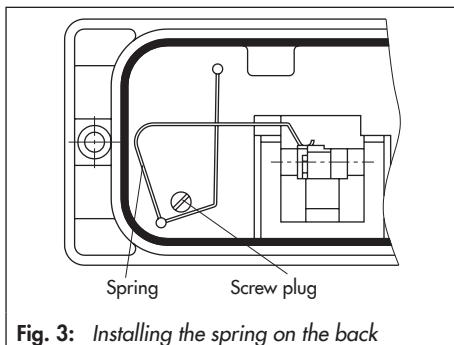

Fig. 3: *Installing the spring on the back*
To ensure that the pin (27a) is properly located in the bracket (28), fix the spring included in the accessories at the back of the positioner housing as illustrated in Fig. 3.